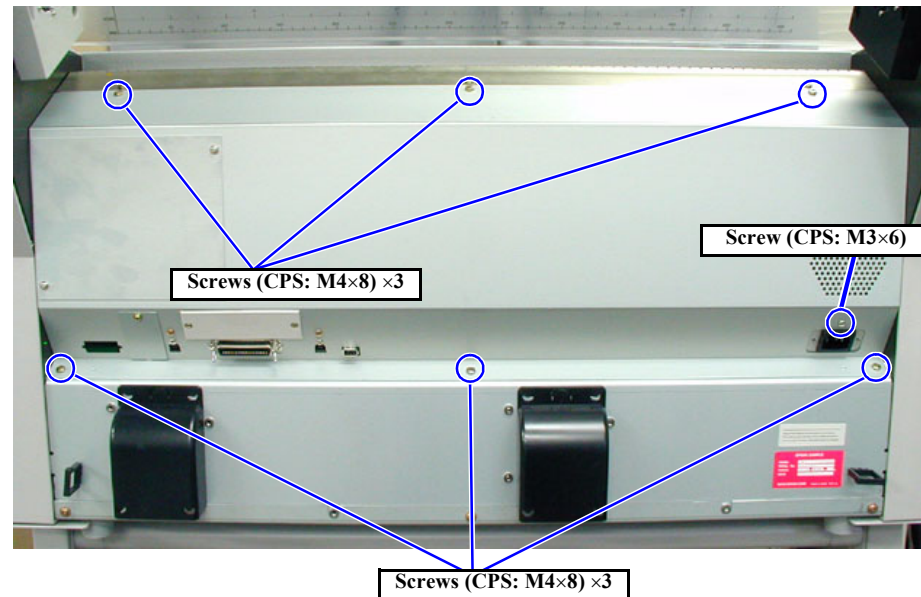

Figure 4-17. Rear Cover Removal 2/2
3. Remove one screw (CBS: M3×6) holding the AC inlet top. (See Figure 4-17)